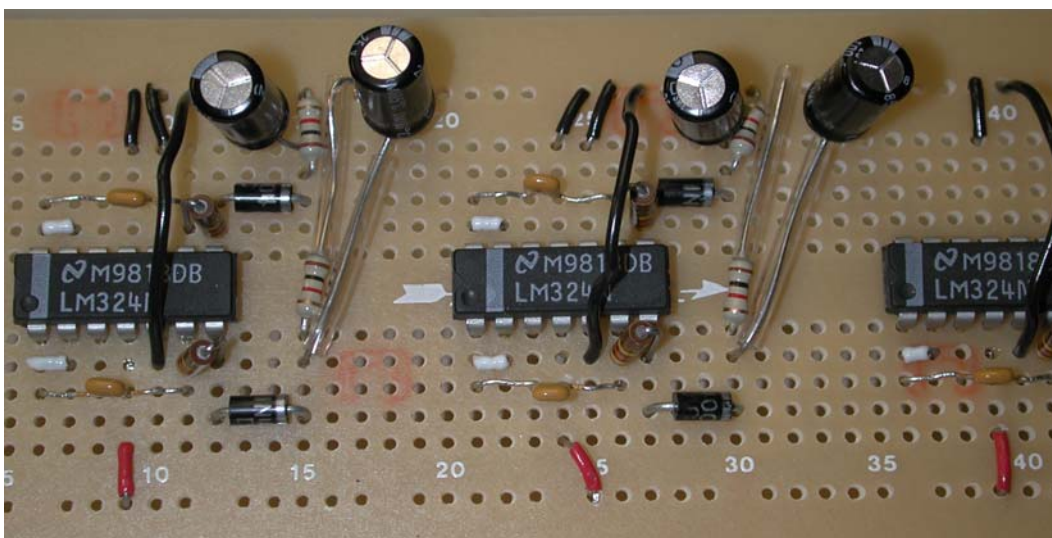

Figure 6: Resistors and capacitors
- Figure 6 shows the installation of the 1 kohm resistors.